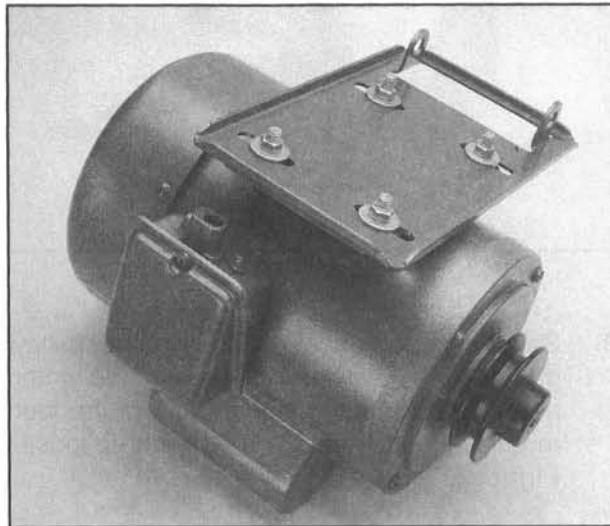

Figure 9.
1. Turn the motor upside down and attach the motor plate using the four 8mm-1.25 x 25mm hex bolts, 8mm washers and 8mm-1.25 hex nuts. Finger tighten only. **Figure 9.**